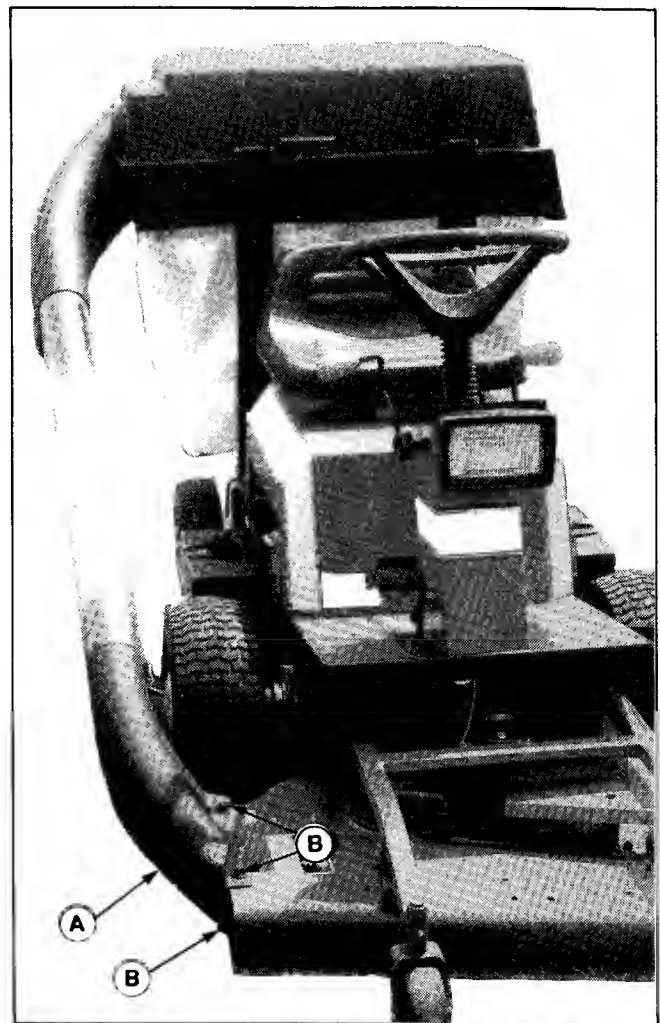

Figure 5. (Grass Catcher Shown Installed)
6. Re-install the mower onto the rider. Place the adapter (A, figure 5) onto the three bolts (B) and install a 3/8" plain washer, lockwasher and nut onto each bolt. (The two lockwashers and nuts on top were used with deflector. The rest of the hardware is supplied with grass catcher.)
1. Remove the three nuts (B, figure 5) lockwashers and plain washers that secure the adapter. The lockwashers and nuts will be used in step 3 to install mower deflector.